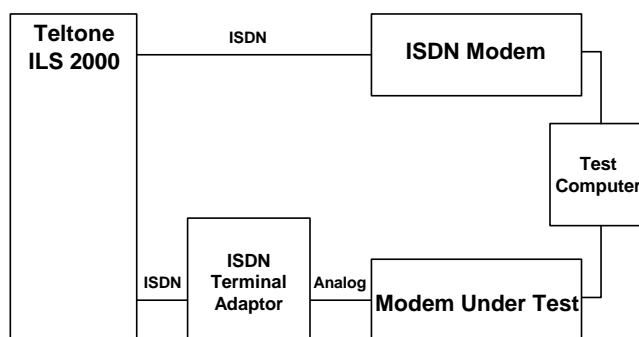

Figure 25. V.90 Modem Functional Test Connection
V.90 modems must be tested with a digital modem, such as the USR Courier I. If you do not use a digital modem as illustrated in Figure 25, the highest connect speed a V.90 modem will support is 33.6 kbps. A call can be placed or received in either direction at the speed set in the modems. A test script must be written for a computer to control the dialing, monitor the call progress, send a file, and compare the received and sent file. Figure 25 illustrates this test configuration.